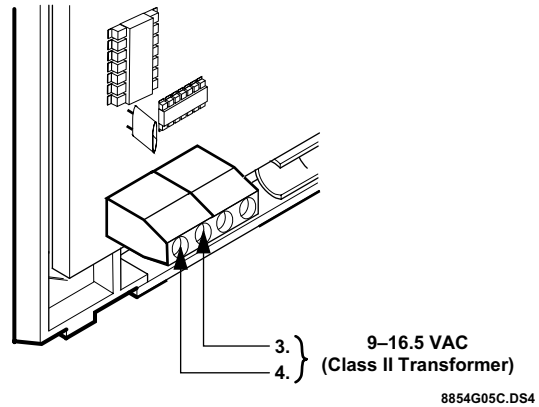

Figure 2. Connecting Class II without Battery
- ③ A 9–16.5 VAC Class II Transformer with a minimum 2 VA rating, when not using a backup battery (see Figure 2).
- 2) Connect the wires to repeater terminals 3 and 4 (see Figure 2 or 3).